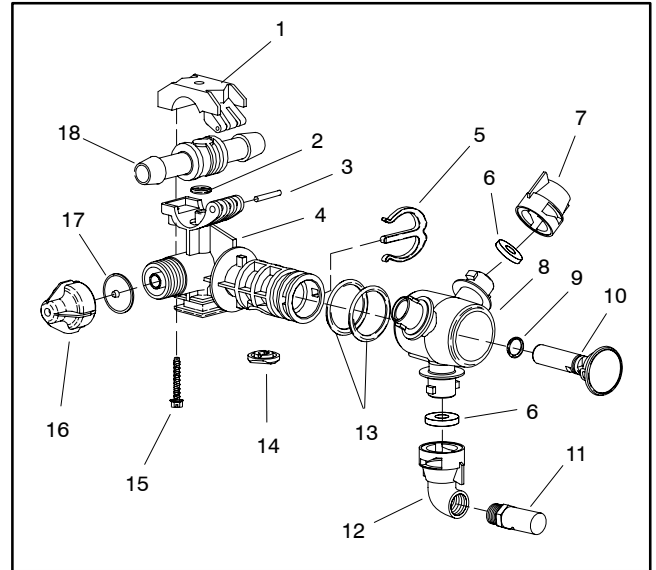

Figure 53
Disassembly (Fig. 53)
2. Disassemble turret body using Figure 53 as a guide.
Assembly (Fig. 53)
2. Assemble turret body using Figure 53 as a guide.